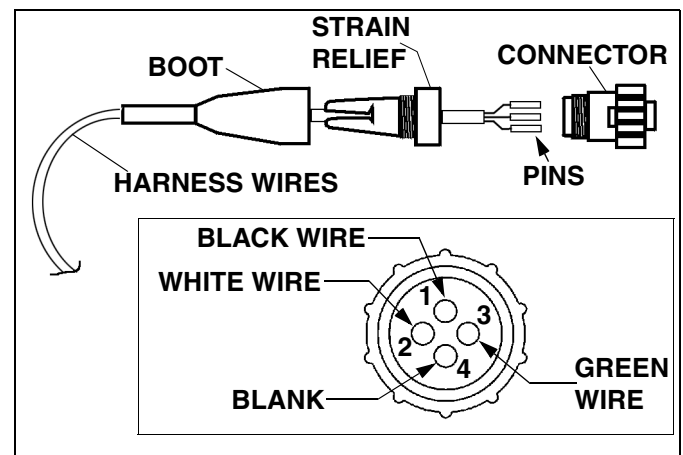

Figure 1
9. Insert harness wires through boot and then through strain relief (See Figure 1). Push the pins on the end of each of the three wires into the back side of the connector (the end with external threads and numbers 1 thru 4 on the surface). The black wire must be inserted into hole #1 of the connector (note that the holes in the connector are numbered adjacent to each hole). The white wire must be inserted in hole #2 and the green wire must be inserted in hole #3.